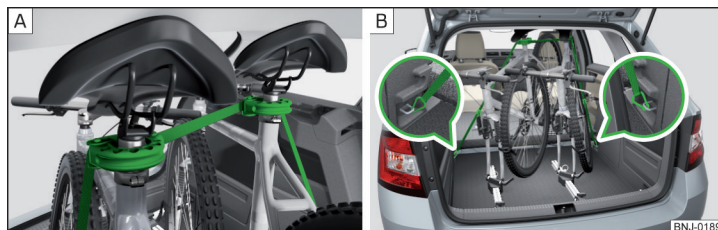

Fig. 109 Ensure the stability of the bicycles with a belt
- When transporting two bicycles, stretch the belt » Fig. 109 - **A** between the saddles by moving the bicycles apart.
- Hook the carabiners on the ends of the belt into the lower lashing eyelets behind the rear seats » Fig. 109 - **B**.